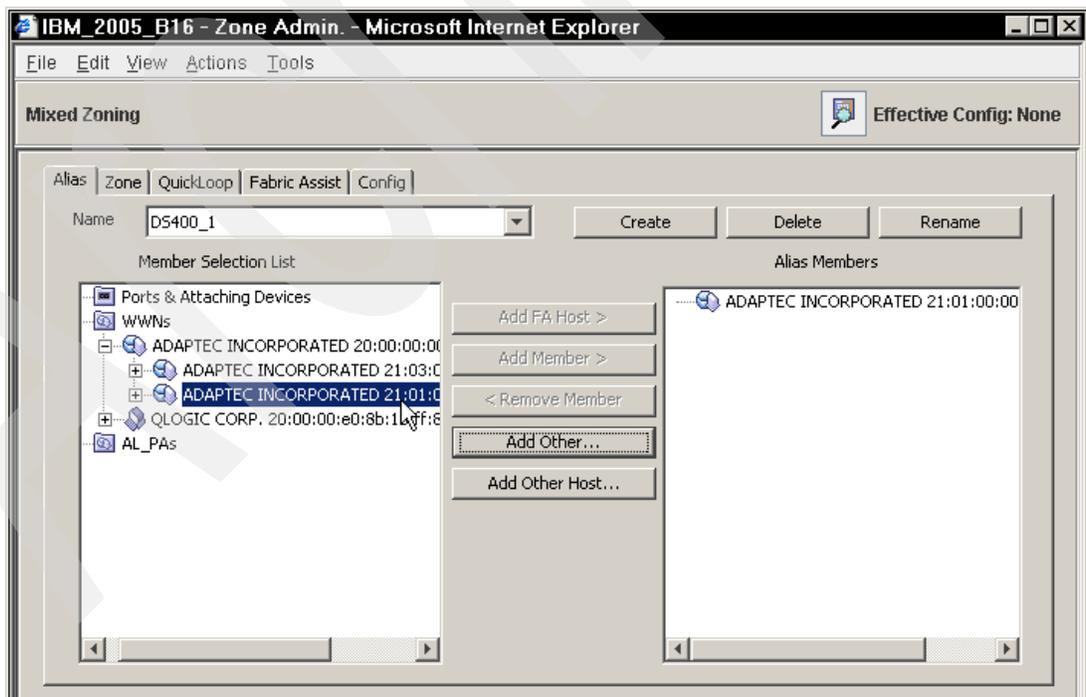

Figure 18 WWN Selection Dialog for aliases
- Navigate through the Member Selection List to WWN → ADAPTEC INCORPORATED, if you are using a DS400; otherwise, it is something other than QLogic. See Figure 18.